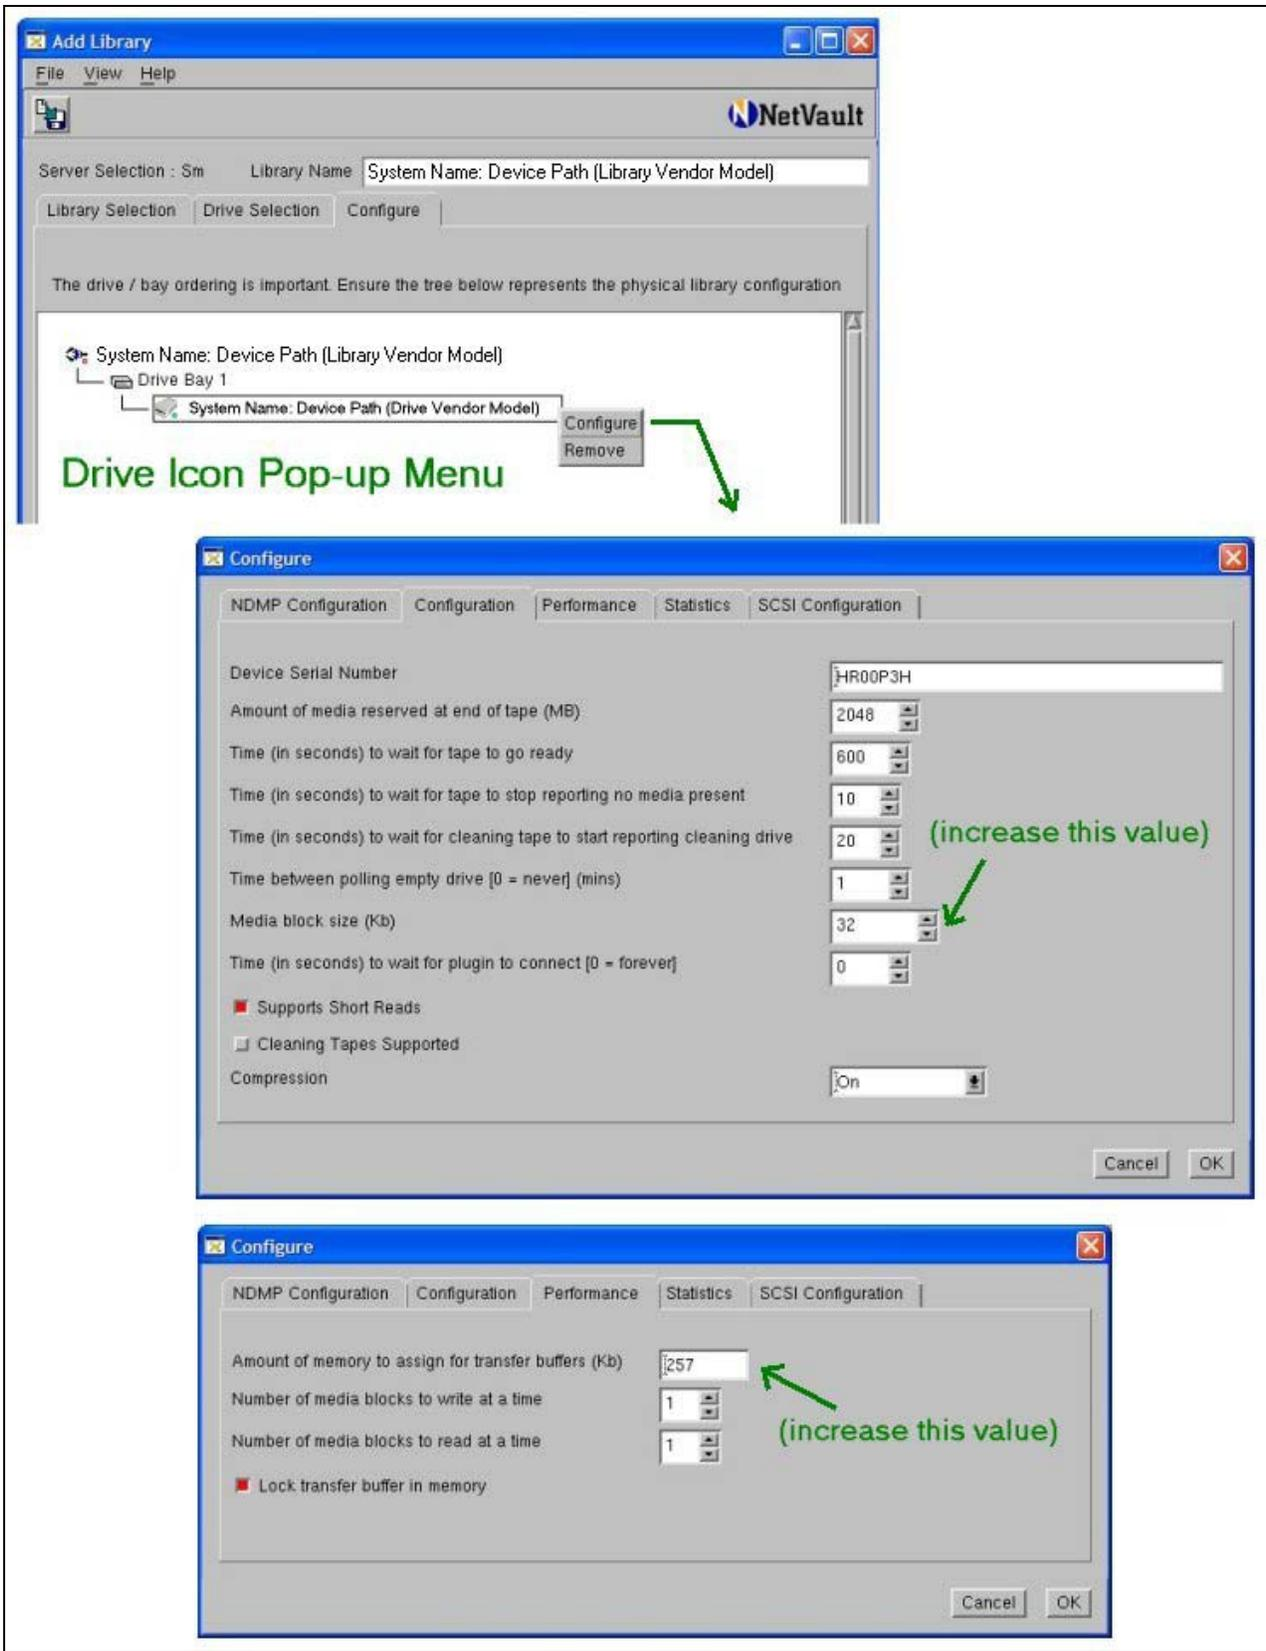

Figure 3. Drive Performance Tuning
- ✓ Select the Configure Tab, right-click the drive and select Configure, to display the Configure Device dialog box. (Refer to Figure 3 on next page.)